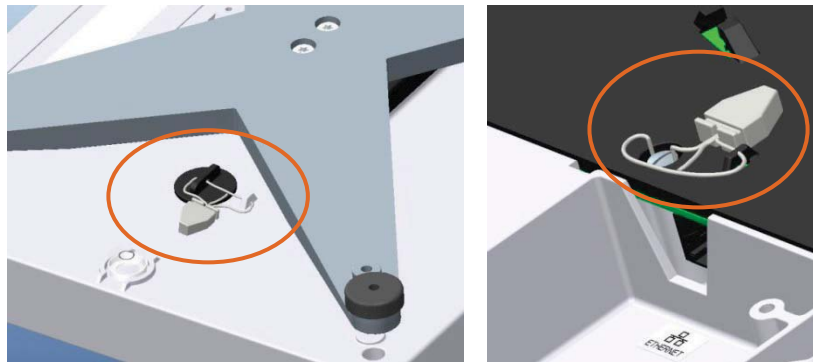

Figure 4-57: BC-60, -6L, -30 and -3L Sealing
1. The holding screw for the PCB cover on the bottom of the scale (left, in Figure 4-57).
2. The green cap and tab hole on the housing scale (right, in Figure 4-57).